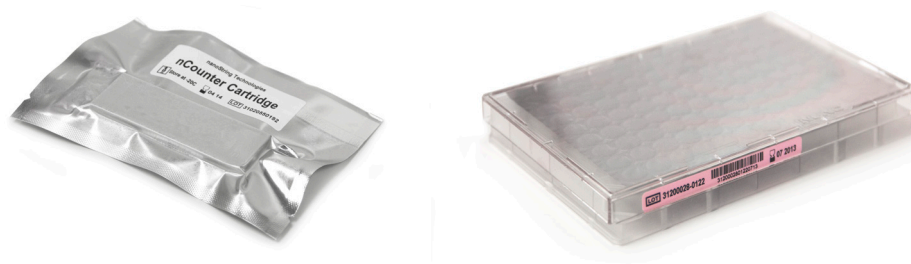

FIGURE 5.8: A sealed sample cartridge (left) and Dx reagent plate (right)
7. Cartridges and reagent plates (FIGURE 5.8) must be at room temperature prior to processing.